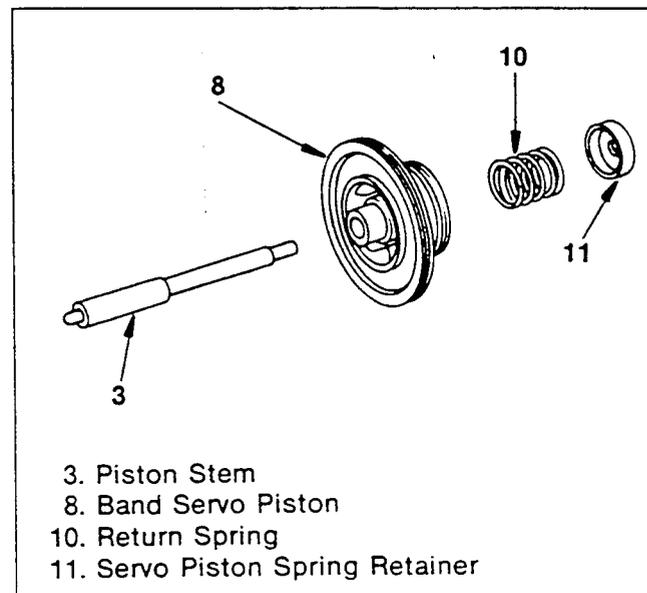

Figure 205. Piston Stem Removal
- Remove the servo piston spring retainer, return spring and piston stem from the band servo piston (figure 205).